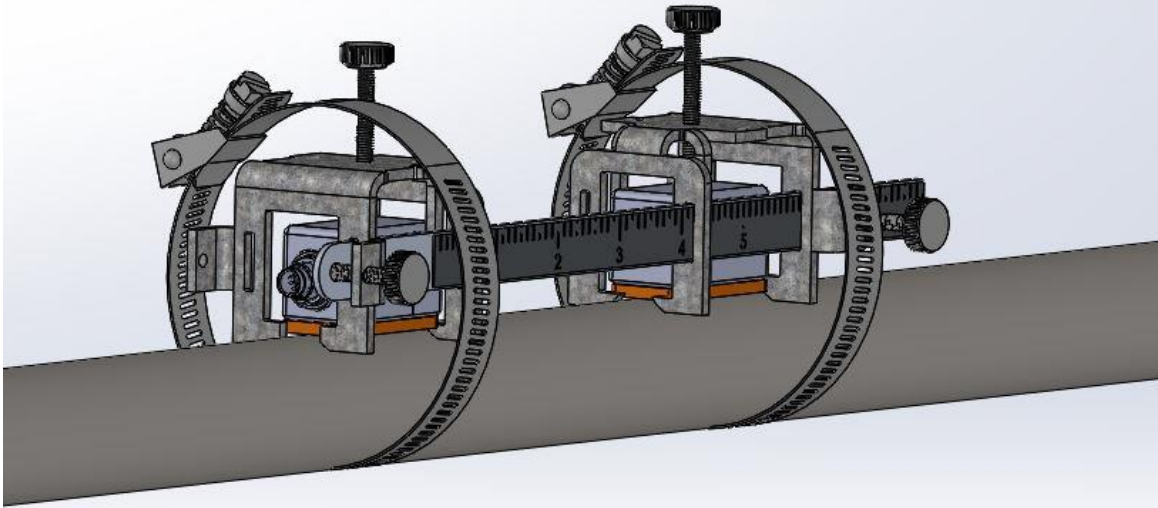

Figure 2-11. Small Rail/Fixture System with Worm-Clamps
3. String the two adjustable worm-drive clamps around the pipe and the fixture as shown in Figure 2-11. Start with a loose fit.